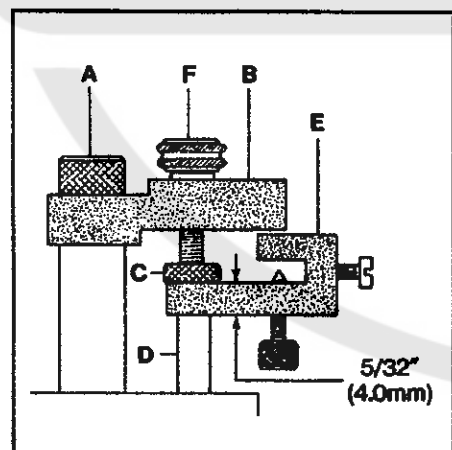

FIG. 8
Turn the handwheel until the needle bar is at its lowest point. Loosen presser bar regulating screw (A, Fig. 8) and insert needle bar setting block (B) under the head of the screw (A) with stop screw (C) above needle bar (D). Tighten screw (A).
The long portion of the looper clamp and height gauge (E, Fig. 8) laid on its side is the  $5/32"$  (4.0mm) gauge used to set the distance between stop screw (C) and the top of the needle bar (D) at its lowest position. Tighten nut (F) to clamp stop screw (C) into place.